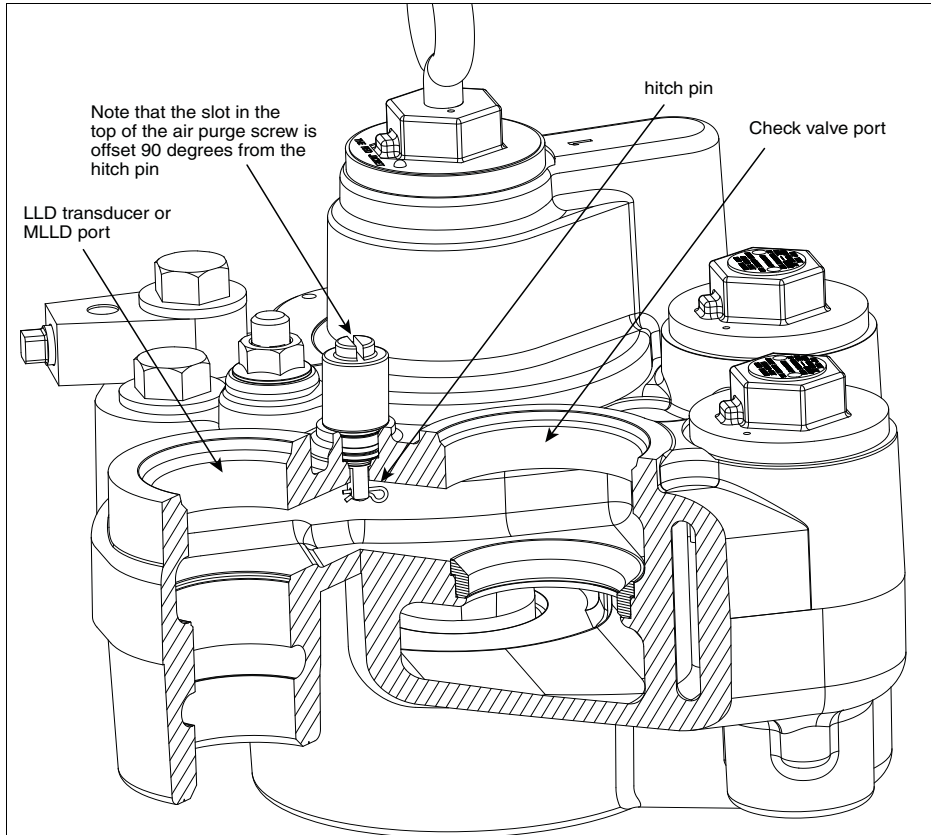

Figure 53. Locating Air Purge Screw Hitch Pin
6. The air purge screw has a hitch pin that is set in the horizontal position to limit travel of the screw (see Figure 53).